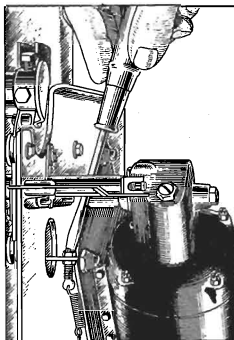

Figure 7—Adjusting tone arm cable tension screw
- (e) Incorrect adjustment of cable tension screw. The cable tension screw shown in Figure 7 should be so adjusted that the needle will lower smoothly onto the record without dropping. When this adjustment is obtained, the cable will be slightly loose when the needle is lowered onto a record. Loosen the lock nuts, turn the screw to the right or left as required and retighten the lock nut. Check the adjustment to make sure that the needle clears the record on the return of the tone arm. The needle should rise  $\frac{1}{16}$ " from the record before any horizontal motion takes place.